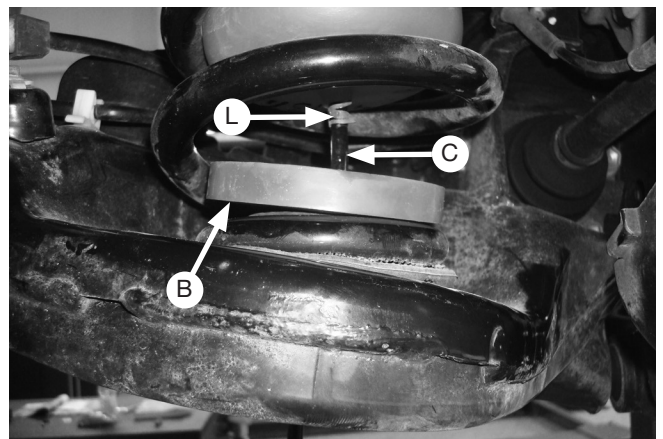

Fig. 5
5. Insert the air line through the center of one protector (B). Install an air line clamp (L) onto the end of the air line (Fig. 5) and push the air line onto the barbed stem of the cylinder until the air line completely covers the barbs. Once the air line is installed onto the stem, using a pair of pliers, slide the air line clamp completely over the barbs.